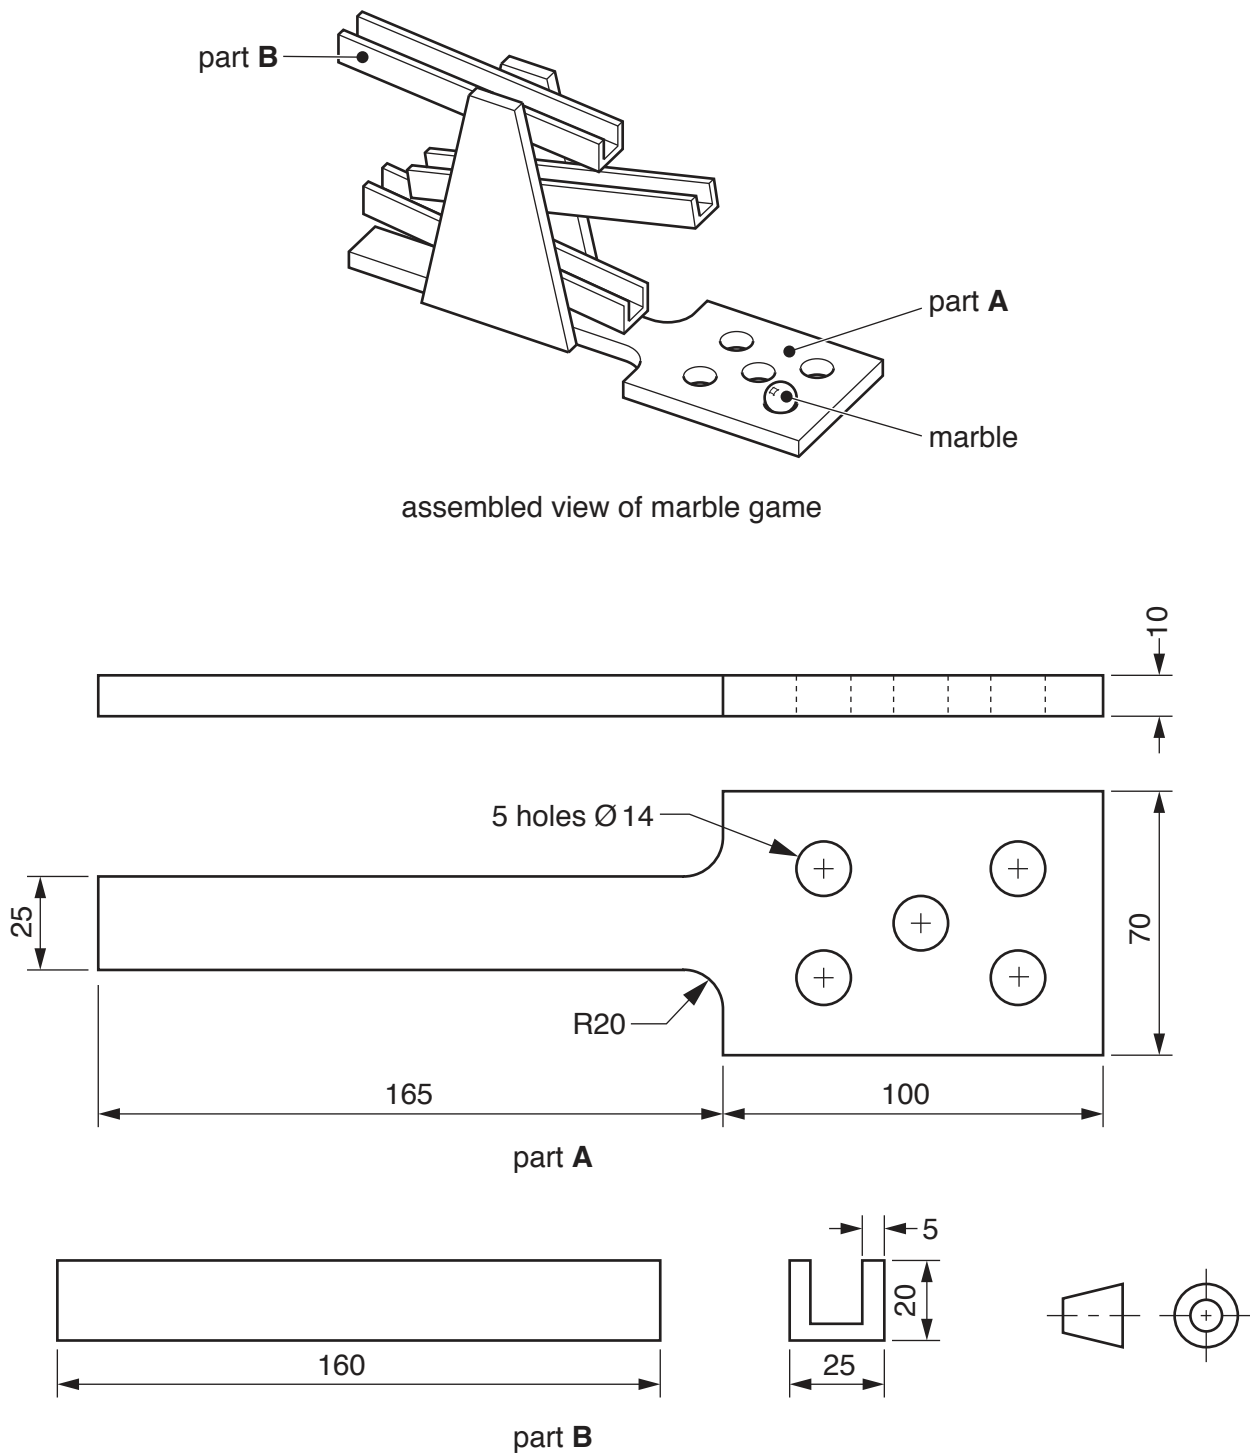

Fig. 3
- 3 Fig. 3 gives details about a marble game, made from wood, which is to be produced in a school workshop.